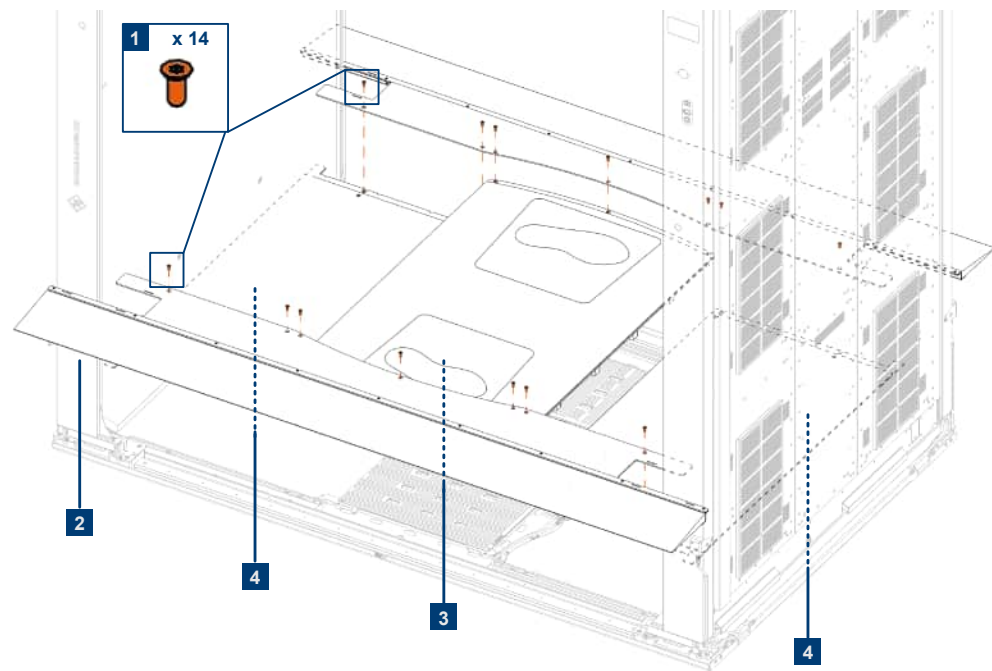

Figure 4-8: Installing the floor plates and the ramps
- Install the 3 floor plates (1 and 2). Refer to Figure 4-8.
- Secure the 2 ramps (3) to the R&S QPS using 7 screws (4) each. Refer to Figure 4-8.